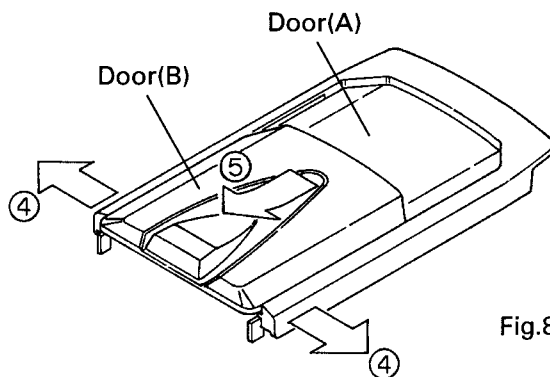

Fig.8
- The slide is done in the direction of arrow⑤ and remove the Door(B) while spread out the Door(A) in the direction of arrow④. (Fig.8)